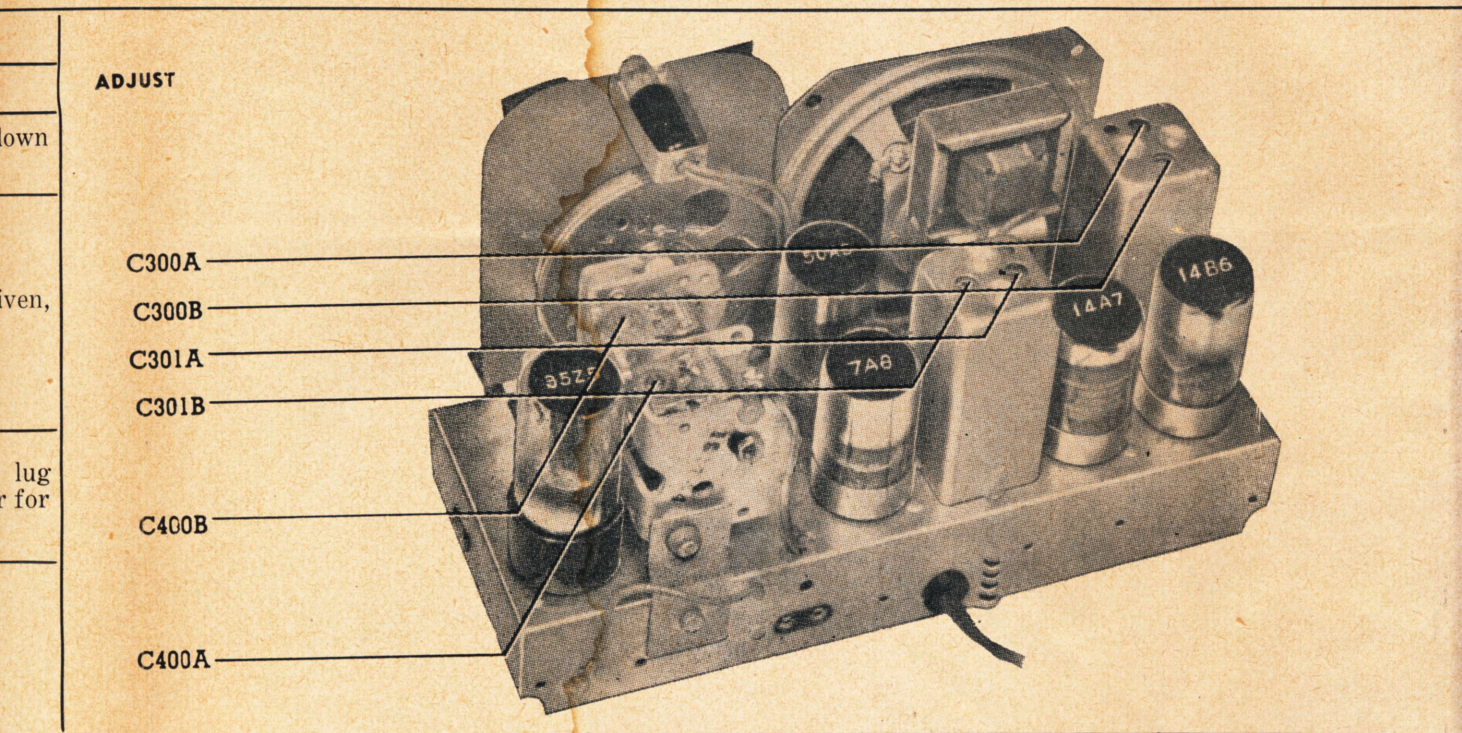

FIGURE 6. TOP VIEW, SHOWING TRIMMER LOCATIONS.
1. Carefully inspect both top and bottom of chassis. Make sure that all tubes are secure in the proper sockets (see figure 6), and look for bad connections, burned resistors, or other obvious sources of trouble.
OUTPUT METER — Connect to left (output) lug and center (chassis) lug of terminal panel, shown in figure 6.